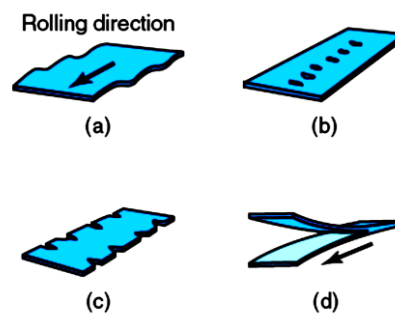

Figure 1: Defects in rolling (a) wavy defect (b) zipper crack (c) edge cracks
b) Referring to figure 1 below, Explain why there are defects in the rolling process?